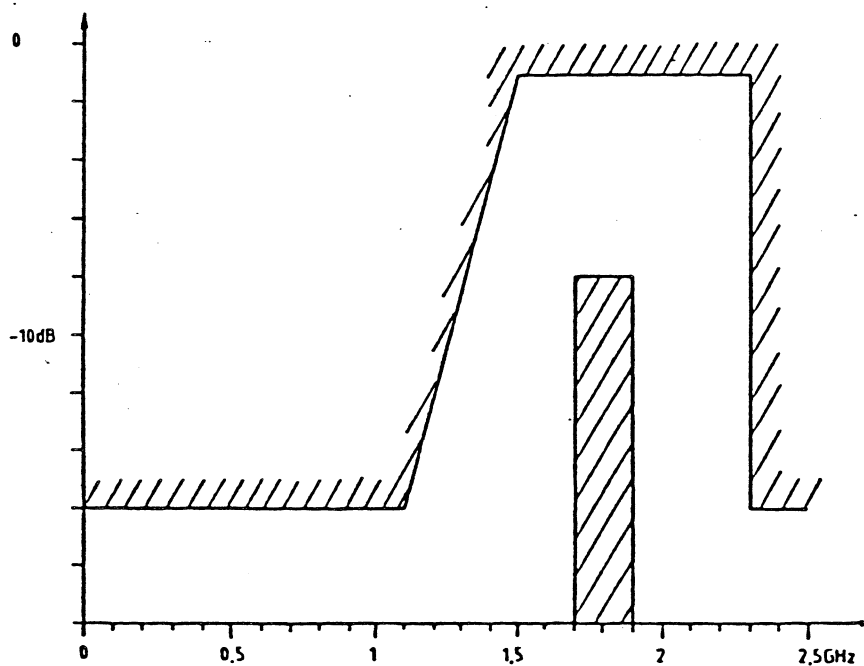

Fig. 5-3 Level tolerance chart: output coupling for synchronization with bandpass filter switched on
--> Apply -15 V across 1.27 k $\Omega$ ; level as in Fig. 5-3.